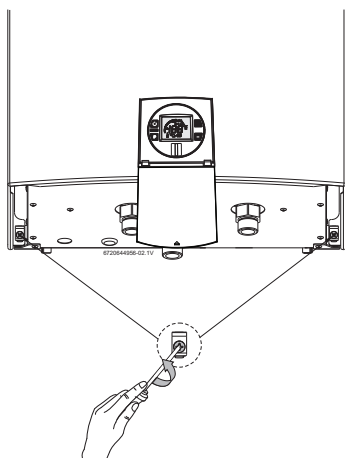

Fig. 3 Loosen the two screws
- Loosen the two Phillips head screws located on bottom rear of cover (see Fig. 3).
- ▶ Loosen the two Phillips head screws located on bottom rear of cover (see Fig. 3).